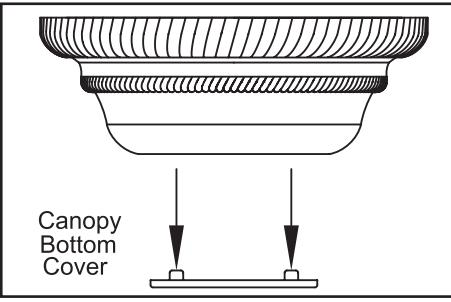

Figure 8
- Re-tighten the set screws on the collar on top of the motor housing (Figure 8).
- Remove the decorative canopy bottom cover from the canopy by depressing the three studs (Figure 8).